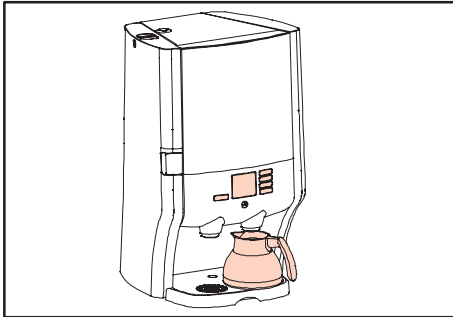

Fig. 82 Place a pot under the outlet
35. Place a pot under the outlet (fig. 82).